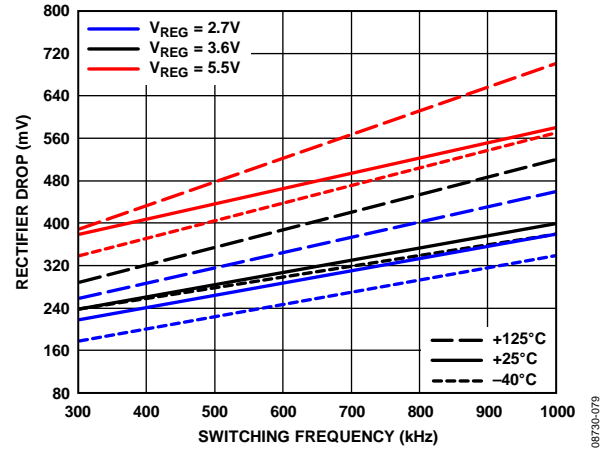

Figure 81. Internal Rectifier Voltage Drop vs. Switching Frequency
- $V_{DR}$  is the driver bias voltage (that is, the low input voltage ( $V_{REG}$ ) minus the rectifier drop (see Figure 81)).
$V_{DR}$  is the driver bias voltage (the low input voltage ( $V_{REG}$ ) minus the rectifier drop (see Figure 81)).